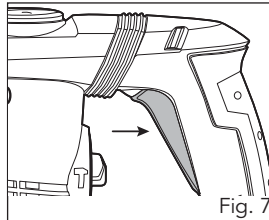

Fig. 7
5. Squeeze the on/off trigger to start drilling (Fig. 7). Release the trigger to stop drilling.